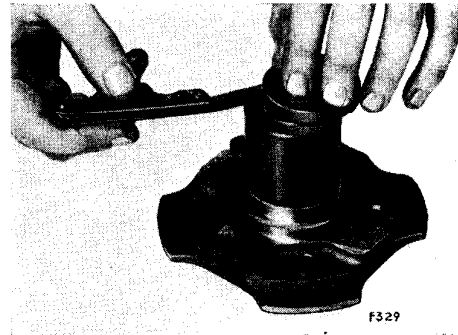
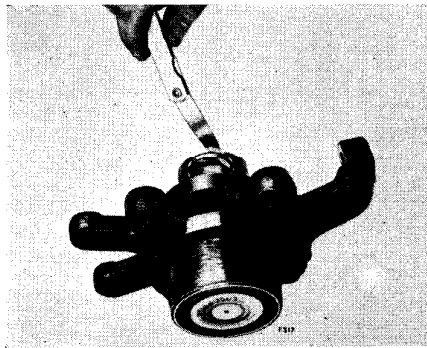

Fig. 25.
Fig. 27.
Take the measurement mentioned as shown in figure 25 (use flat plate from S.325). This records the difference between wheel flange and tool by the use of a feeler gauge which will be kept and used later in assembly.
6. Fit dry bearings to the vertical link and assemble with the end float gauge S.325 as shown in Figure 27. Tightening and rotating the finger screw to track the bearings. Insert the feeler gauge determined in figure 25 and select spacer and shims which fit tightly (see figure 26). This thickness of spacer and shim will give .002"-.005" dry bearing end float.